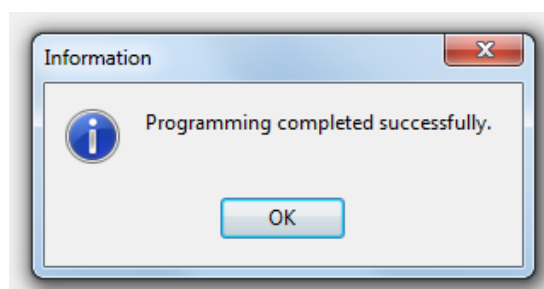

Fig. 20 Finish upload.
- Press: **OK** to finish upload (Fig. 20).